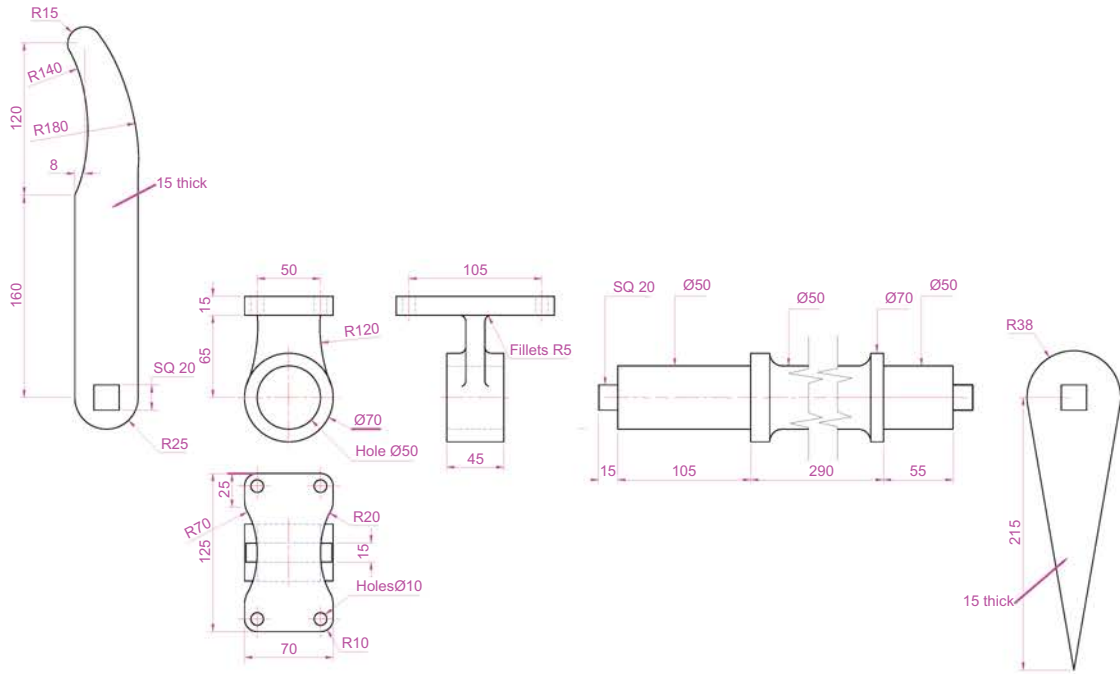
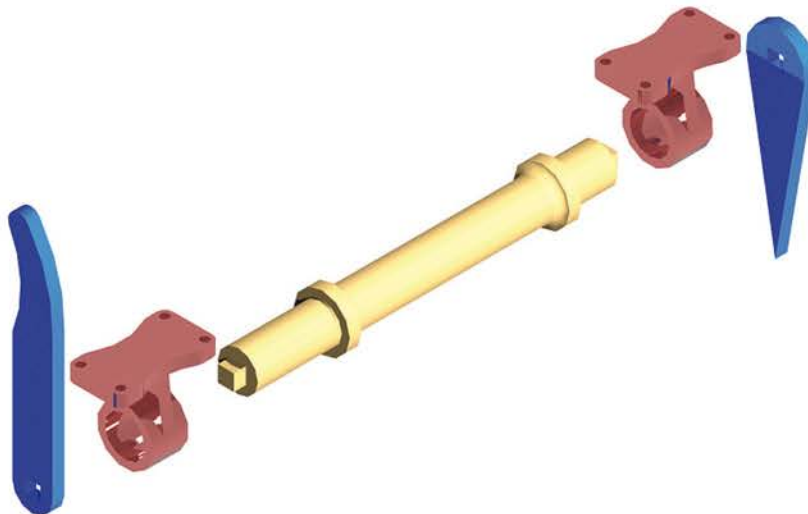

Fig. 19.38 Exercise 9 – details drawing
Fig. 19.39 Exercise 9 – exploded rendered view
- Working to the details shown in Fig. 19.38, construct an assembled 3D model, with the parts in their correct positions relative to each other. Then separate the parts as shown in the 3D rendered model drawing Fig. 19.39. When the 3D model is complete, add suitable lighting and materials, and render the result.